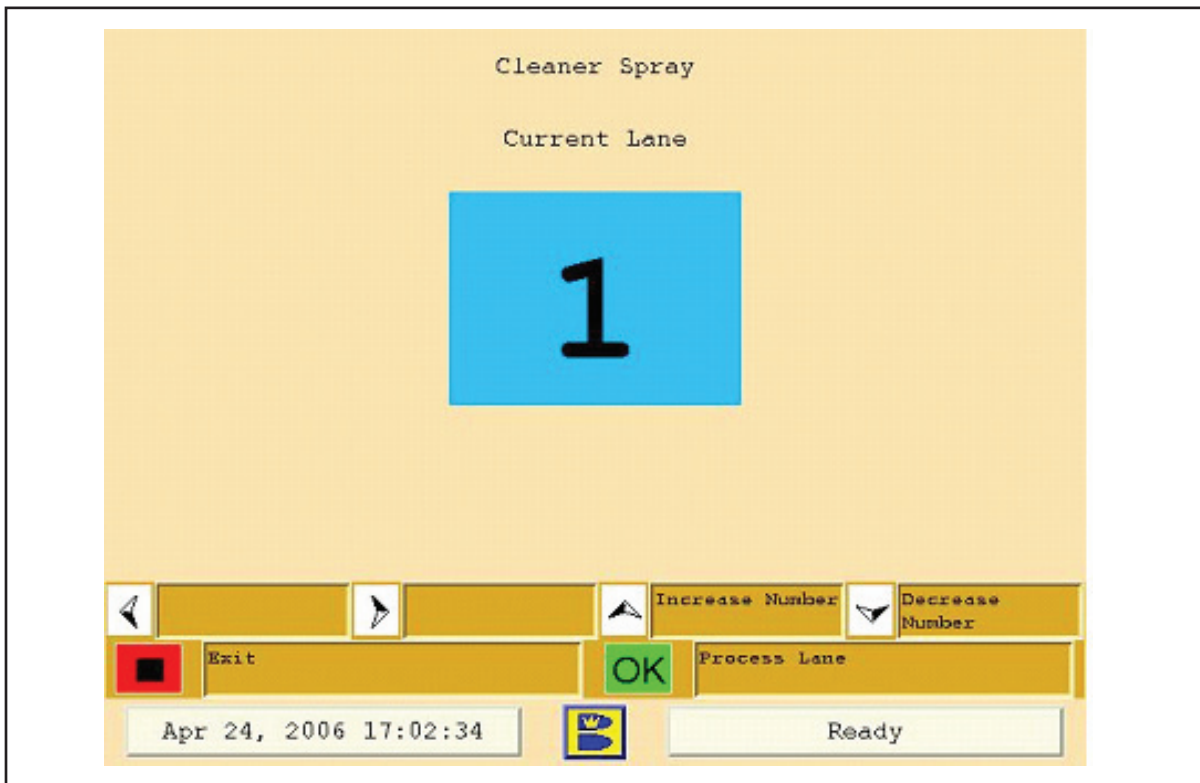

Figure 5-33. Cleaner Spray
4. Select the Cleaner Spray test, press “OK” and the following screen will appear (“Cleaner Spray” will appear at the top of the screen for the spray test). Refer to Figure 5-33.